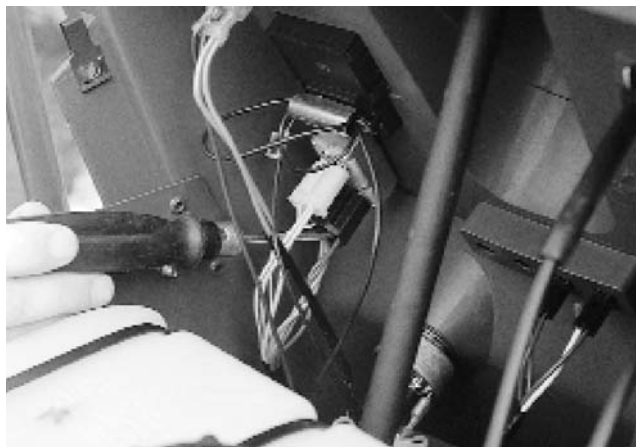

Figure 3-43.
3. If there is voltage at the red wire at the PTO, switch the PTO to the start position and check for voltage at the blue and brown wire. If there is no voltage at either, replace the PTO switch. See Figure 3-43.